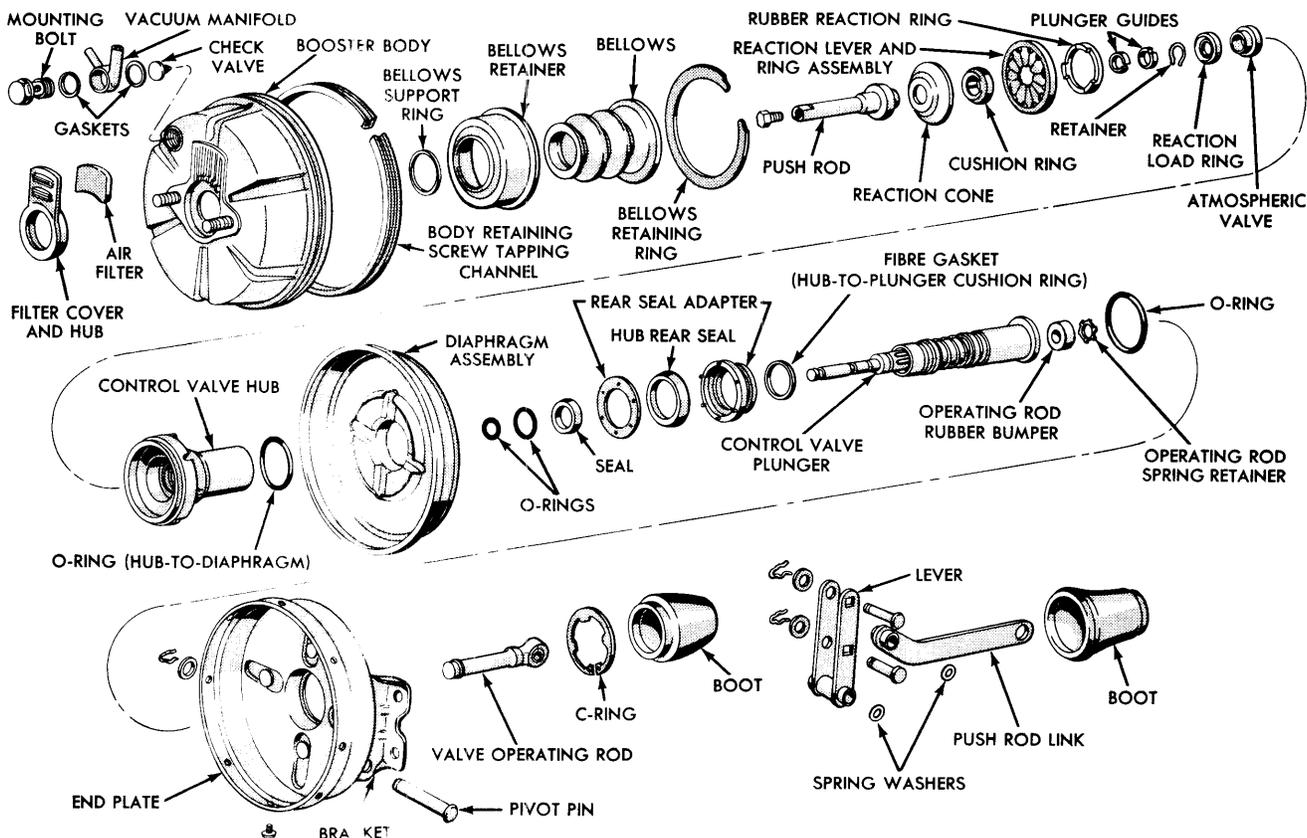

FIG. 10—Brake Booster—Exploded View
2. Remove the filter cover and hub and the air filter from the booster body (Fig. 10).
3. Remove the mounting bolt vacuum manifold, two gaskets and the vacuum check valve from the booster body (Fig. 10).
4. Disconnect the valve operating rod from the lever assembly by removing the retainer clip, washers and connecting pin (Fig. 10).
1. Remove the large C-ring that retains the rear seal adapter assembly to the booster end plate (Fig. 10).
4. Remove the outer O-ring from the control valve hub (Fig. 10).
2. Remove the retainer and support ring from the bellows (Fig. 10).
1. If the valve operating rod was removed from the old plunger assembly, install a new rubber bumper and spring retainer on the rod before assembling to the replacement plunger assembly (Fig. 10). Push the operating rod firmly until it bottoms in the plunger.
6. Assemble the reaction cone and cushion ring to the push rod (Fig. 10). Install the push rod assembly to the valve hub so that the valve plunger indexes in the push rod (Fig. 7).
7. Assemble the bellows, retainer, and support ring (Fig. 10). The support ring is positioned on the middle fold of the bellows.
1. With a screwdriver, slightly move the booster body retaining screw tapping channel in order to provide a new surface for the self-tapping attaching screws (Fig. 10).
3. Install the O-ring in the front side of the end plate (Fig. 10) and position the end plate to the booster body. Align the scribe lines, compress the two assemblies together with a clamp, then install the attaching screws.
1. Install the rubber boot to the valve operating rod (Fig. 10).
5. Install the vacuum check valve, position the vacuum manifold and two gaskets, and secure the entire assembly to the booster body with the mounting bolt (Fig. 10). Torque the mounting bolt to specification.